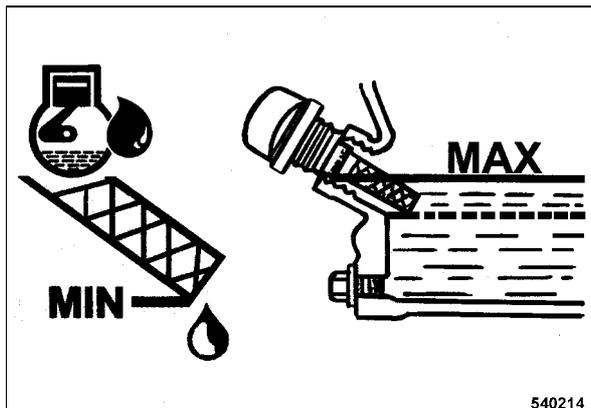

Fig. 40
- The oil level must reach the bottom edge of the filler bore (Fig. 40), top up if necessary.